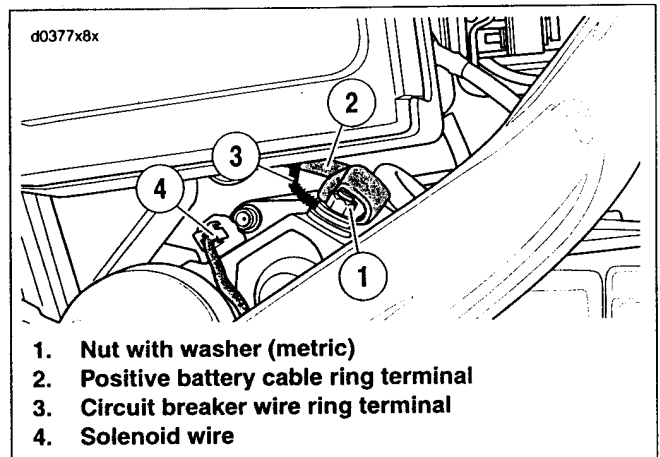

Figure 5-10. Starter Wires
7. See Figure 5-10. Remove protective boot. Remove nut with washer (1) (metric).
- a. Remove positive battery cable ring terminal (2).
- b. Remove circuit breaker wire ring terminal (3).
- c. Detach solenoid wire (4).
3. See Figure 5-10. Attach positive battery cable (2), circuit breaker wire (3) and solenoid wire (4). Tighten nut (1) (metric) to 60-85 in-lbs (6.8-9.6 Nm). Place rubber boot securely over terminal.